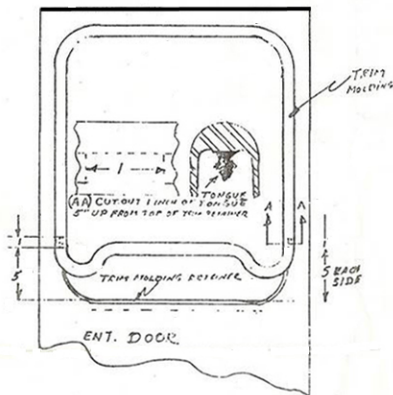

FIG 1
- 1- Lift off trim molding from bottom of window frame (fig 1) and 5 inches up both sides, cut 1 inch of tongue only out of trim molding, (fig 1).